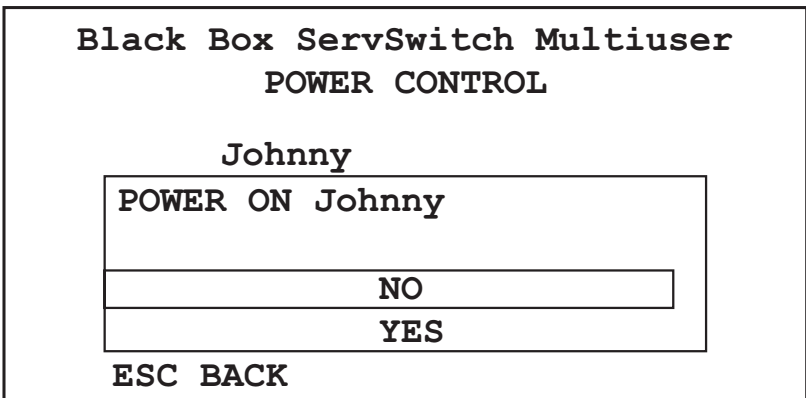

Figure 18-3. Power prompt.
4. A prompt appears; see Figure 18-3. Select the desired option and press Enter. The power command is sent.